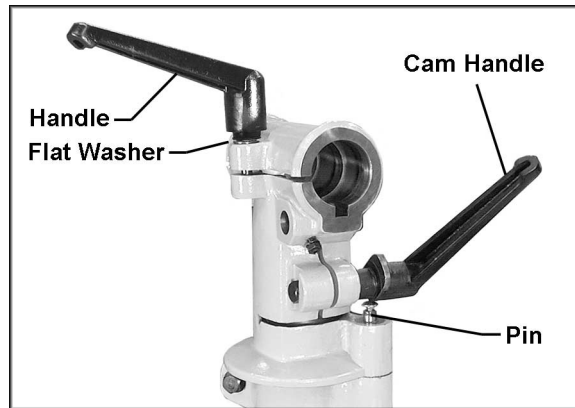

Figure 2
7. Insert the pin assembly into the hole (Figure 2). You may need to rotate it until it seats properly in the hole.
8. Install a flat washer and cast iron handle (Figure 2) to the threads of the top screw as shown, by screwing the handle down clockwise onto the screw threads.
9. In the area above the pin, remove the hex nut from the screw with a 19mm wrench, but leave the flat washer in place. In place of the hex nut, install the cam handle (Figure 2). Screw the cam handle clockwise onto the threads (the cam handle will contact the pin on each rotation and push the pin downward.) Tighten the cam handle.